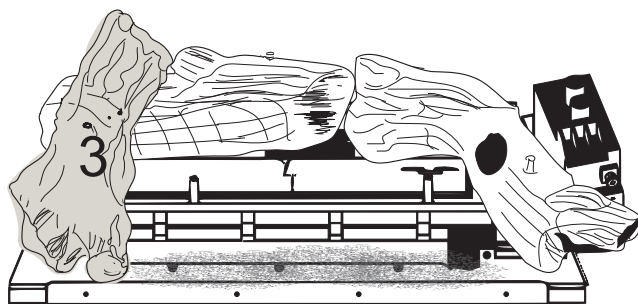

Figure 6.4 - Log #3 Placement
4. Hold log #3 with your left hand with the fat end away from you. Place log #3 by positioning the notch on the bottom of the log over the left side of the grate and rest the fat end onto log #2. See Figure 6.4.